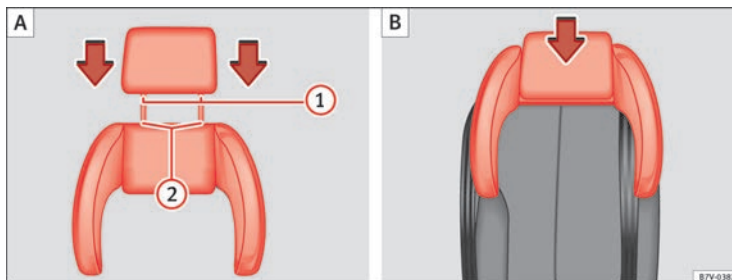

Fig. 30 Integrated child seats, position the head restraint over the side head restraint [A] and fit into place [B]
- Insert the guide rods ⇒ Fig. 30 **A** **1** of the head restraint into the guides on the side head restraint ⇒ Fig. 30 **A** **2**.
- Insert the head restraint and the side head restraint into the guides on the corresponding seat backrest ⇒ Fig. 30 **B**.